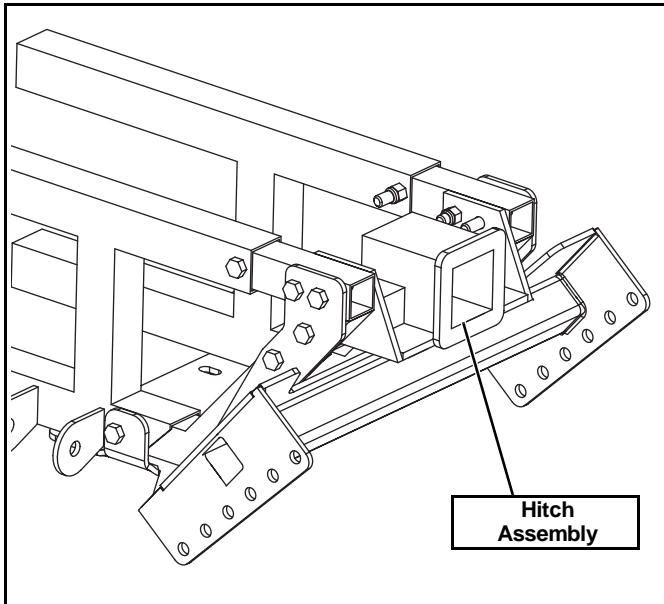

Figure 8
- Hold Hitch Assembly in its original location. (See Figure 8.)
- Secure the upper end of item #2 and the Hitch Assembly by reinstalling the hardware that was removed from step 1. (See Figure 8.)